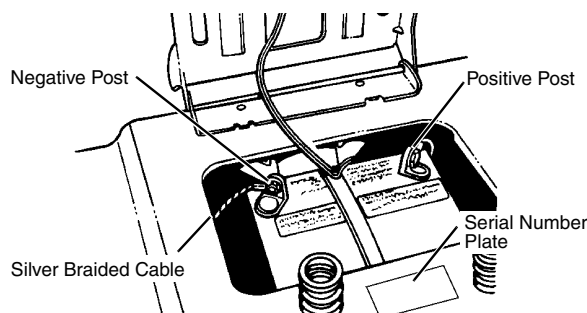

FIG. 6
- Connect the red battery cable to the positive terminal (+) with a 6 mm hex head bolt and 6 mm flange nut from the bag of parts and tighten securely. (See FIG. 6)